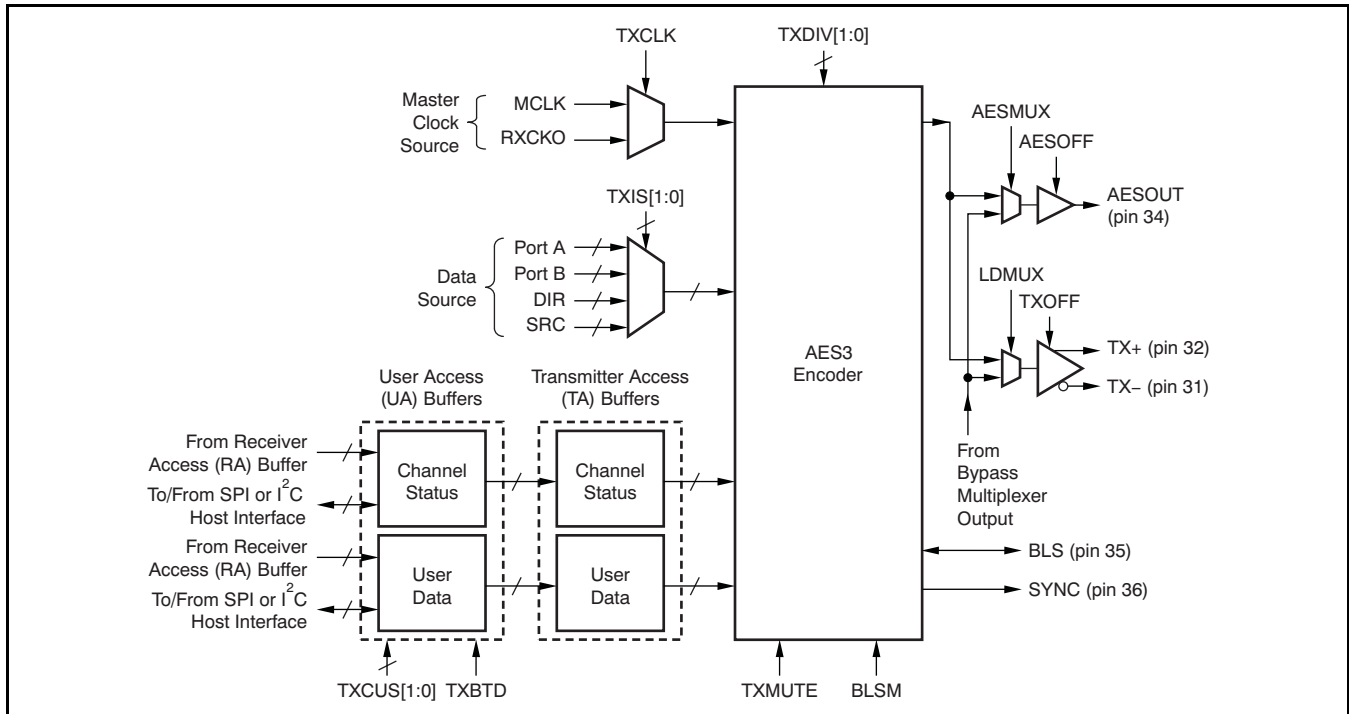
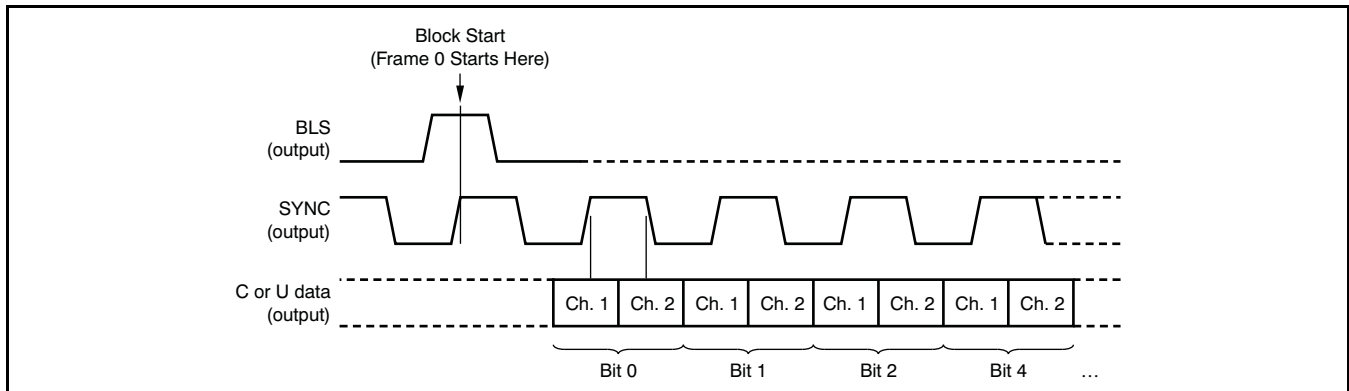

Figure 65. Digital Interface Transmitter (DIT) Functional Block Diagram
Figure 71. DIR Channel Status and User Data Serial Output Format Via the GPO Pins
The AES3 encoder output is connected to the output line driver and CMOS buffer source multiplexers. As shown in Figure 65, the source multiplexers allow the line driver or buffer to be driven by the AES3-encoded data from the DIT, or by the bypass multiplexer, which is associated with the outputs of the four differential input line receivers preceding the DIR core. The bypass multiplexer allows for one of the four line receiver outputs to be routed to the line driver or buffer output, thereby providing a bypass mode of operation. Both the line driver and CMOS output buffer include output disables, set by the TXOFF and AESOFF bits in control register 0x08. When the outputs are disabled, they are forced to a low logic state.
The decoded audio data, along with the internally-generated sync clocks, may be routed to other function blocks, including Port A, Port B, the SRC, and/or the DIT. The decoded channel status and user data is buffered in the corresponding Receiver Access (RA) data buffers, then transferred to the corresponding User Access (UA) data buffers, where it may be read back through either the SPI or I²C serial host interface. The contents of the RA buffers may also be transferred to the DIT UA data buffers; see Figure 65. The channel status and user data bits may also be output serially through the general-purpose output pins, GPO[4:1]. Figure 71 illustrates the output format for the GPO pins when used for this purpose, along with the DIR block start (BLS) and frame synchronization (SYNC) clocks. The rising edges of the DIR SYNC clock output are aligned with the start of each frame for the received AES3 data.